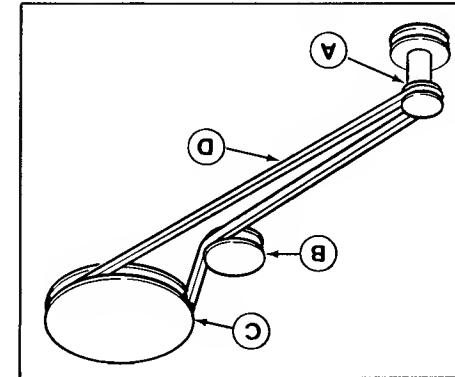

Figure 22. Tractor Belt Pattern
7. Install the new belt in reverse order of removal procedure. The belt pattern is shown in figure 22.